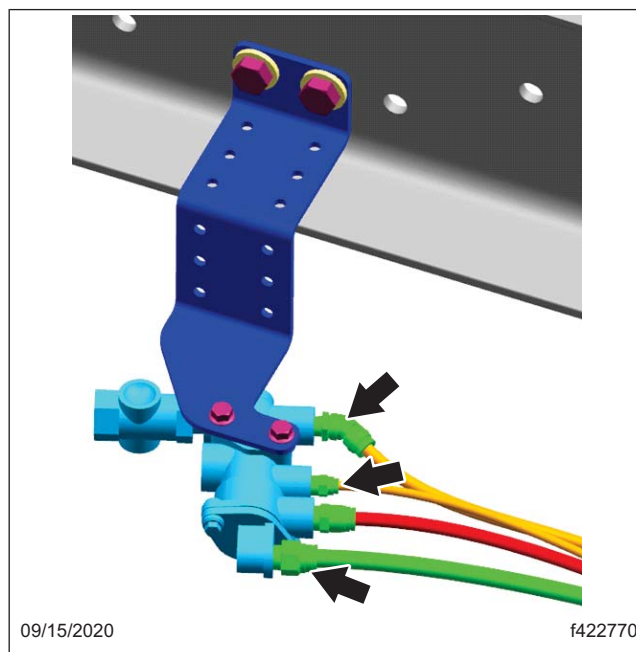

Fig. 35, New Tractor Protection Valve Assembly
16. Shorten and attach the green hose and two orange hoses that were disconnected from the old trailer air assembly to the new tractor protection valve assembly as shown in Fig. 35.